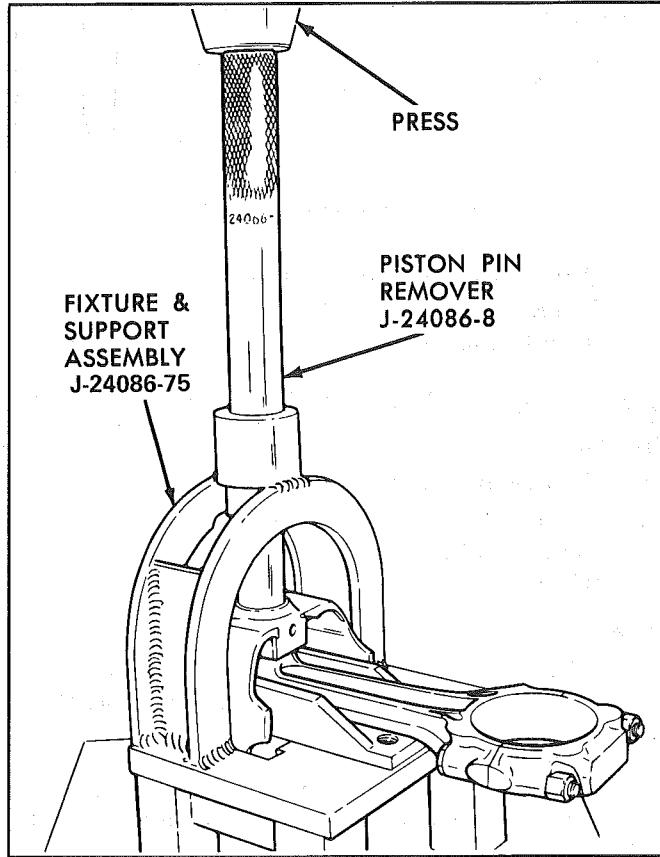

Fig. 6A3-45 Removing Piston Pin
3. Place connecting rod and piston assembly on Tool J-24086-20. Using an arbor press and piston pin remover, J-24086-8, press the piston pin out of connecting rod and piston (Fig. 6A3-45).